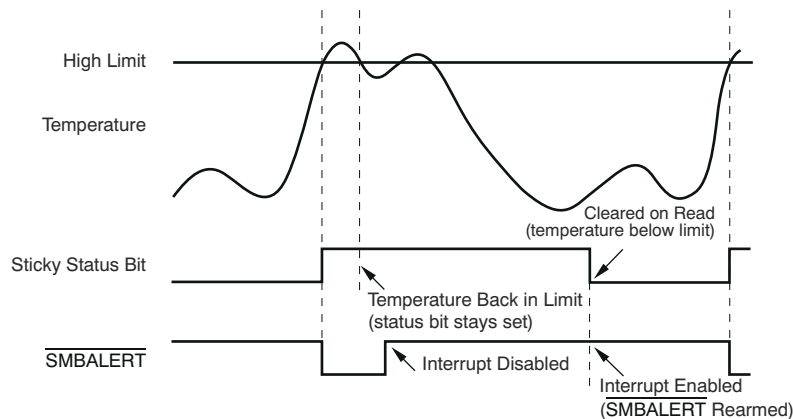

Figure 8-22. How Masking the Interrupt Source Affects SMBALERT
7. Periodically poll the status registers. If the interrupt source bit has cleared, reset the corresponding interrupt enable bit to '1'. This reset makes the SMBALERT output and status bits behave as shown in Figure 8-22.